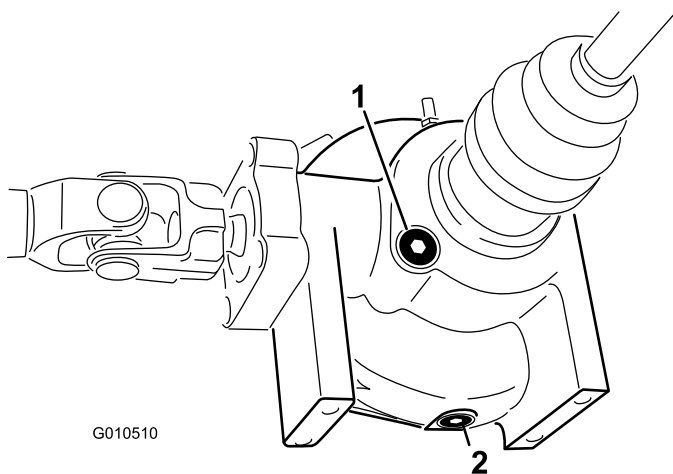

Figure 18
2. Clean the area around the fill/check plug on side of the differential (Figure 18).